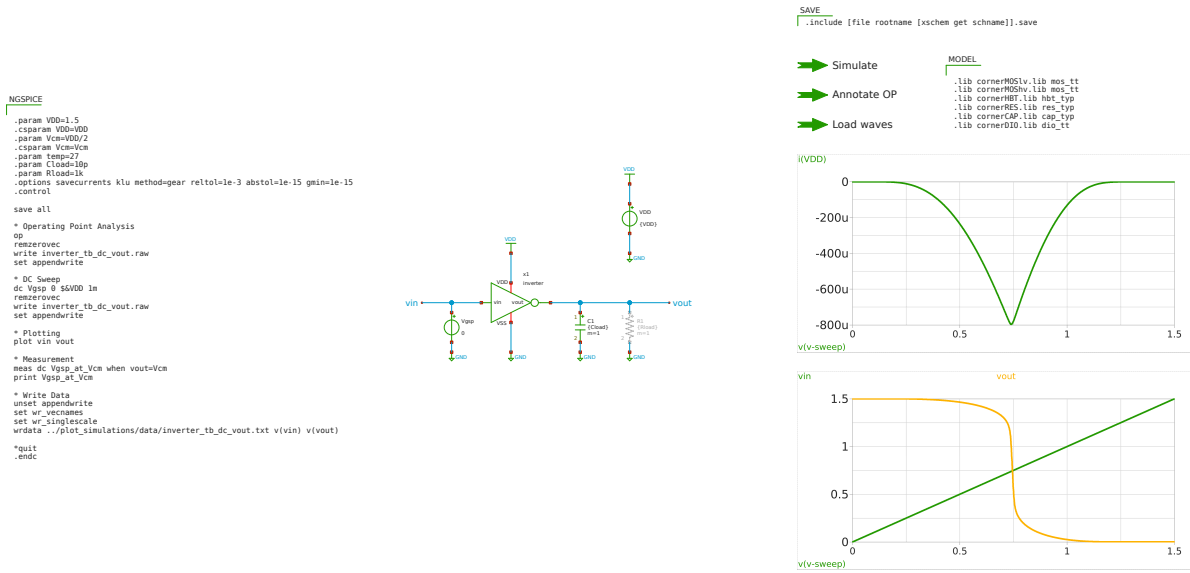

Figure 6: Testbench inverter_tb_dc_vout (dc input sweep).
- inverter_tb_dc_vout.sch sweeps the input from 0 to V_{DD} and records the voltage transfer characteristic (see Figure 6).